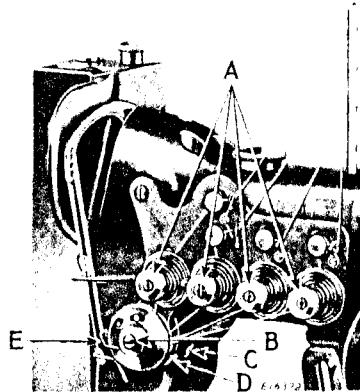

Fig. 14. Adjustment of Thread Controller
The tension on the needle threads is regulated by the thumb nuts (A, Fig. 14) at the front of the tension discs. To increase the tension, turn these thumb nuts over to the right. To decrease the tension, turn these thumb nuts over to the left.
The function of the thread controller spring (E, Fig. 14) is to hold back the slack of the needle threads until the eye of each needle reaches the goods in its descent, as without this controlling action of the spring, the slack thread or silk (more especially silk) will sometimes be penetrated by the points of the needles as the needles are descending.
To change the thread controller stop for more controller action on the threads, loosen the set screw (D, Fig. 14) and turn the thread controller spring stop to the right; for less action, turn the thread controller spring stop to the left, after which securely tighten the set screw (D).
To increase the tension of the thread controller on the threads, loosen the tension stud set screw (C, Fig. 14), located nearly under the tension stud, and turn the tension stud (B, Fig. 14) slightly to the left with a screwdriver, or to decrease the tension, turn it to the right and retighten the stud set screw (C).